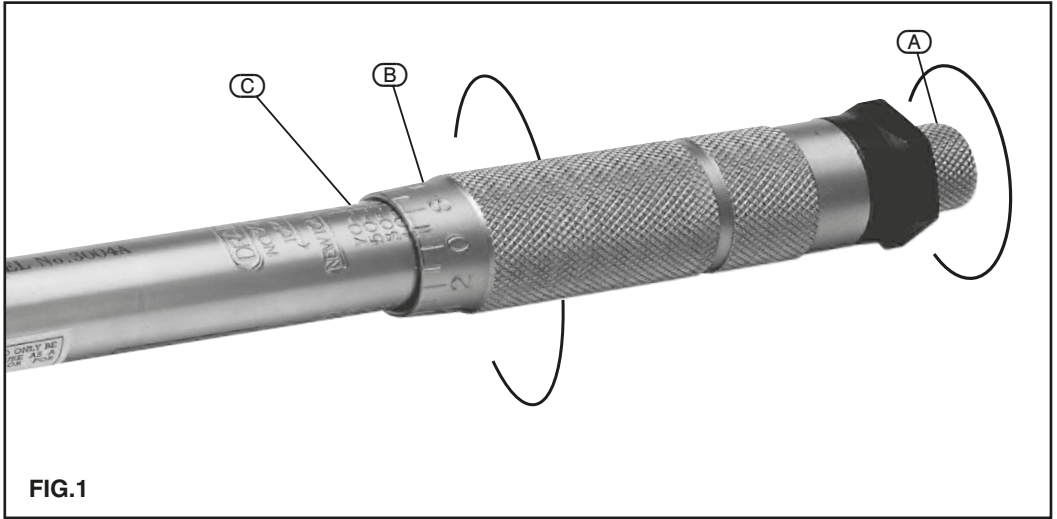

FIG.1
| 8.1 OPERATING INSTRUCTIONS – FIG. 1..... | 9 |
8.1 OPERATION INSTRUCTIONS - FIG. 1
1. Unlock handle (Fig.1) (Page 10).
4. Lock handle (Fig.1) (Page 10).